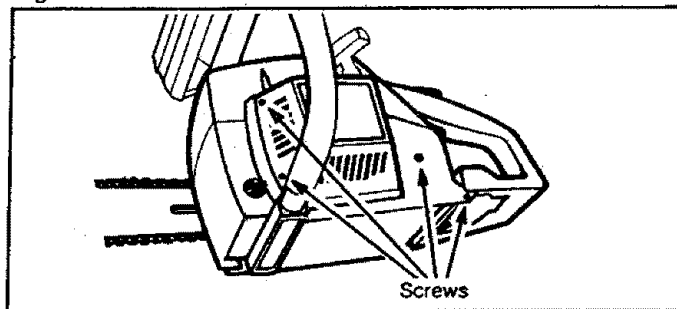

Figure 52
STARTER ROPE REPLACEMENT (Fig. 52, 53, 54, 55, 56 & 57)
- Remove four screws shown in the Figure 52 (note that one is located *underneath* the rear handle). Then, remove the screw located on the rear of the engine housing below the ON/STOP switch.